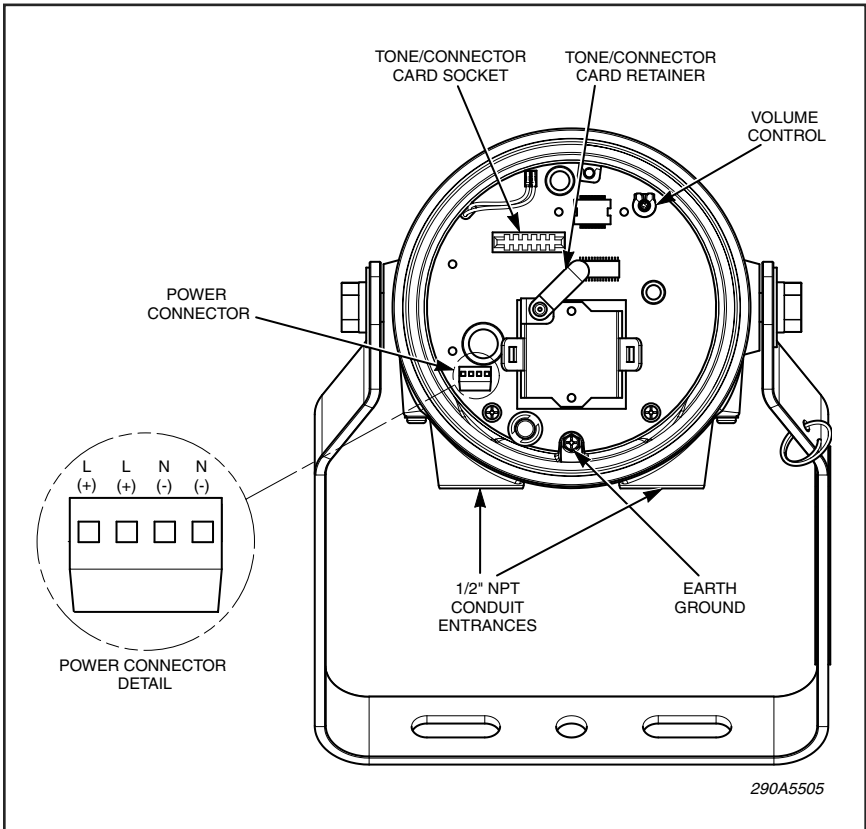

Figure 2.
The speaker can be mounted on any relatively flat surface capable of supporting the speaker's weight. Conduit connections can be made to the 1/2" NPT threaded openings at bottom of the housing (see Figure 2).
a. Plug the desired tone card (purchased separately) into the socket as shown in Figure 2.
c. See Figure 2 on page 9 and Figure 5 on page 11. Connect the power source positive (+) lead to the terminal block labeled (+). Connect the power source negative (-) lead to the terminal block labeled (-). Connect the additional (+) and (-) terminal blocks to the next unit or to an end of line device.
a. Plug the desired connector card (purchased separately) into the socket as shown in Figure 2 on page 9.
c. See Figure 2 on page 9 and Figure 6 on page 12. Connect the power source positive (+) lead to the terminal block labeled (+). Connect the power source negative (-) lead to the terminal block labeled (-). Connect the additional (+) and (-) terminal blocks to the next unit or to a power supervision relay.
A. After installation is complete, be sure to test the system to verify that each amplified speaker operates satisfactorily. If it is found that the unit is too loud for its location, an internal volume control can be adjusted. Remove the housing cover and insert a slotted electricians' type screwdriver into the volume control shown in Figure 2. Gently turn the control counter-clockwise to decrease the sound output to the desired loudness. Reinstall the housing cover.